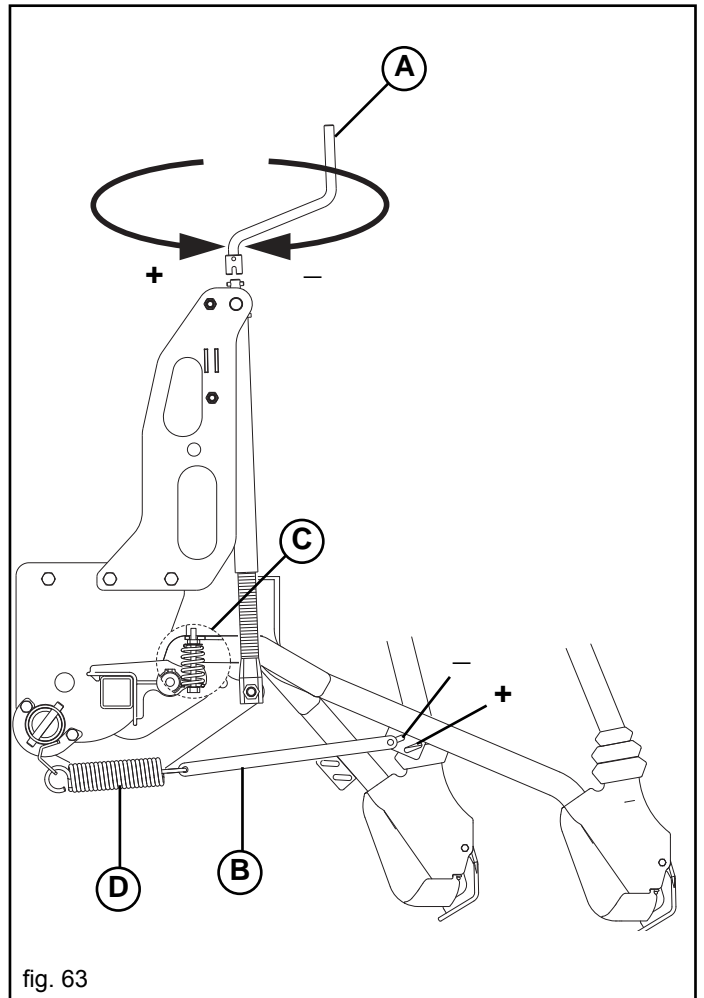

fig. 63
The seeding depth is adjusted simultaneously for all planting devices through a crank (Fig. 63). By rotating it counterclockwise, a stronger pressure can be exerted on the planting devices to the ground by means of the extension springs, thus allowing deeper seeding.
You can further adjust the pressure, separately, changing the position of the tie-rod (B Fig. 63).
With suffolk coulters only a spring (det. C, Fig. 63) is supplied, as an accessory, to reset the weight of each individual spring element (D) when the spring is fully unloaded. Shallow seeding is possible in this condition.